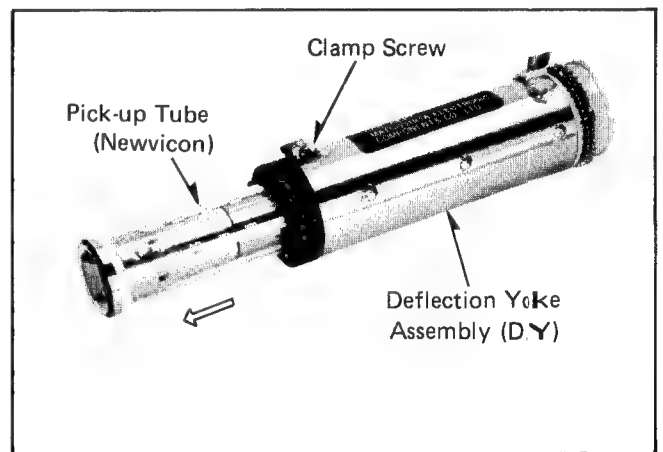

Fig. 8. Pick-up Tube and D.Y.
- 3-10. Loosen the clamp screw and remove the pick-up tube from the deflection yoke assembly (D.Y.) (see Fig. 8)